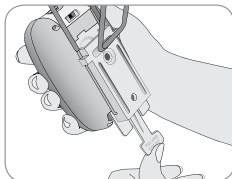

Fig. 10
1. Slide alarm onto bracket from top down until it is firmly in place (Fig. 10).